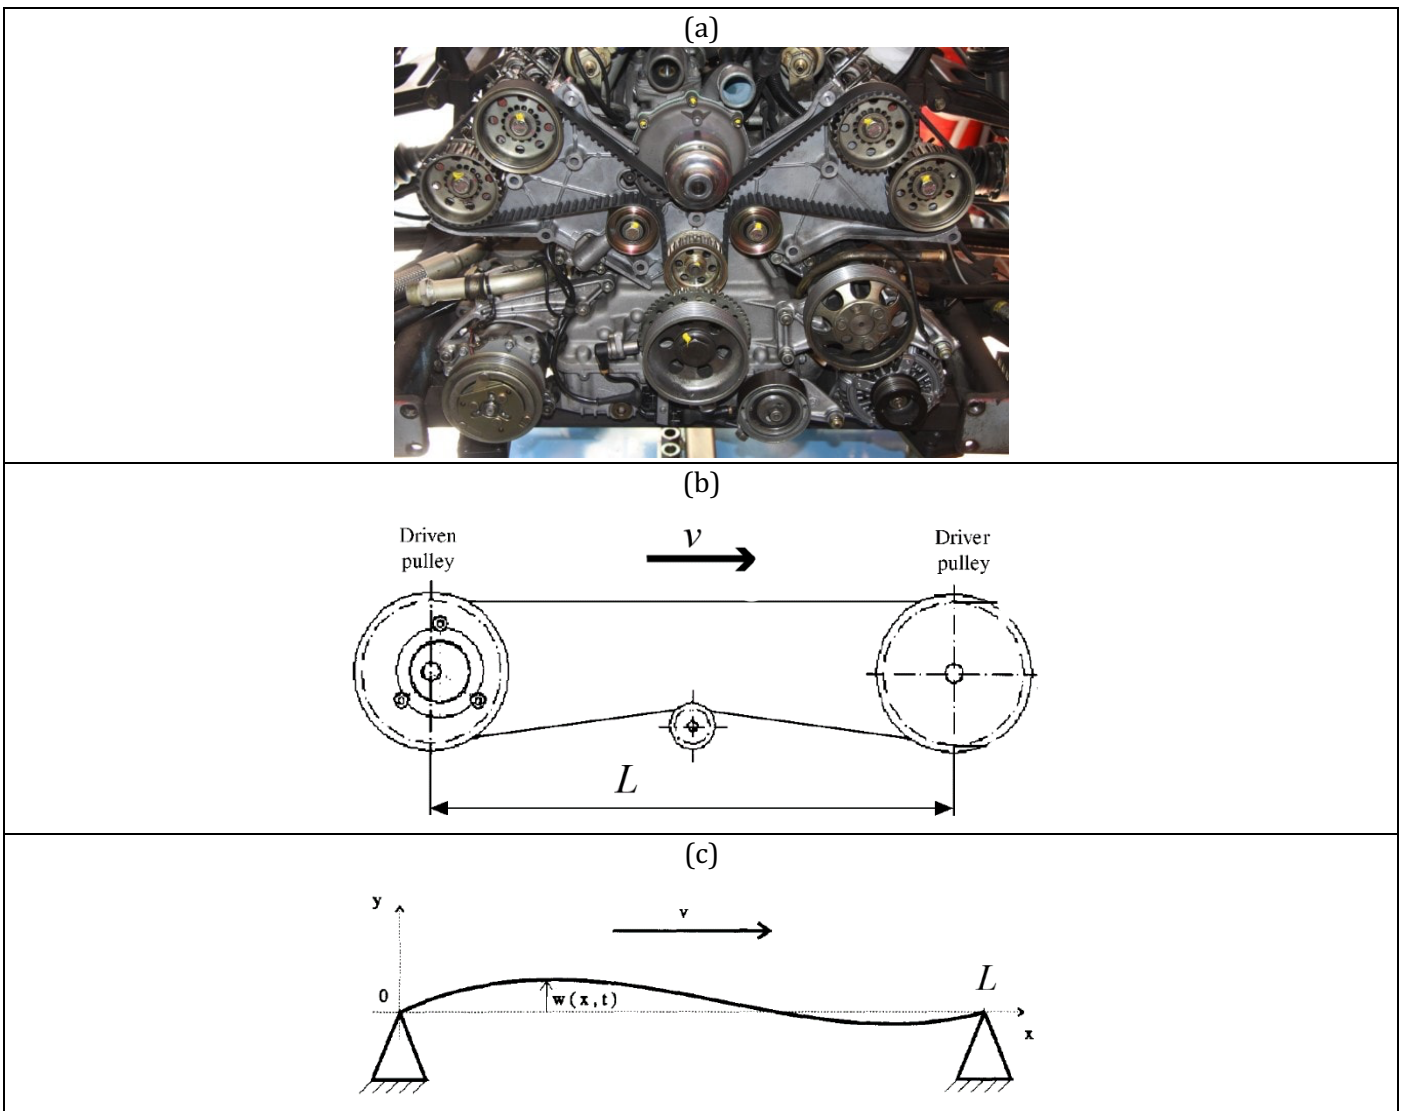

Fig. 3 - (a) belt transmission, (b) simplified two-pulley belt transmission, (c) travelling beam model.
- ii) Find mode shapes (complex) and represent a modal oscillation (see e.g. document "5.pdf", figures 3 and 4)
Consider a power belt transmission, Fig.3(a,b). The upper branch of the belt can be modelled as a moving beam, see Fig.3(c). Neglect eccentricity and tension fluctuation. Consider document "5.pdf" as main reference, where the equations of motions **must be linearized** (neglect nonlinear terms).
- Find mode shapes (complex) and represent a modal oscillation (see e.g. document "5.pdf", figures 3 and 4)